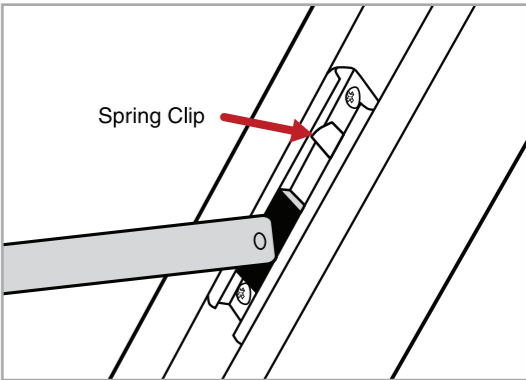

Figure 08: Location of window release clip on a tilting system
- Step 2** - Detach the restrictor by pressing the spring clip and sliding the arm free (as shown in Figure 08).